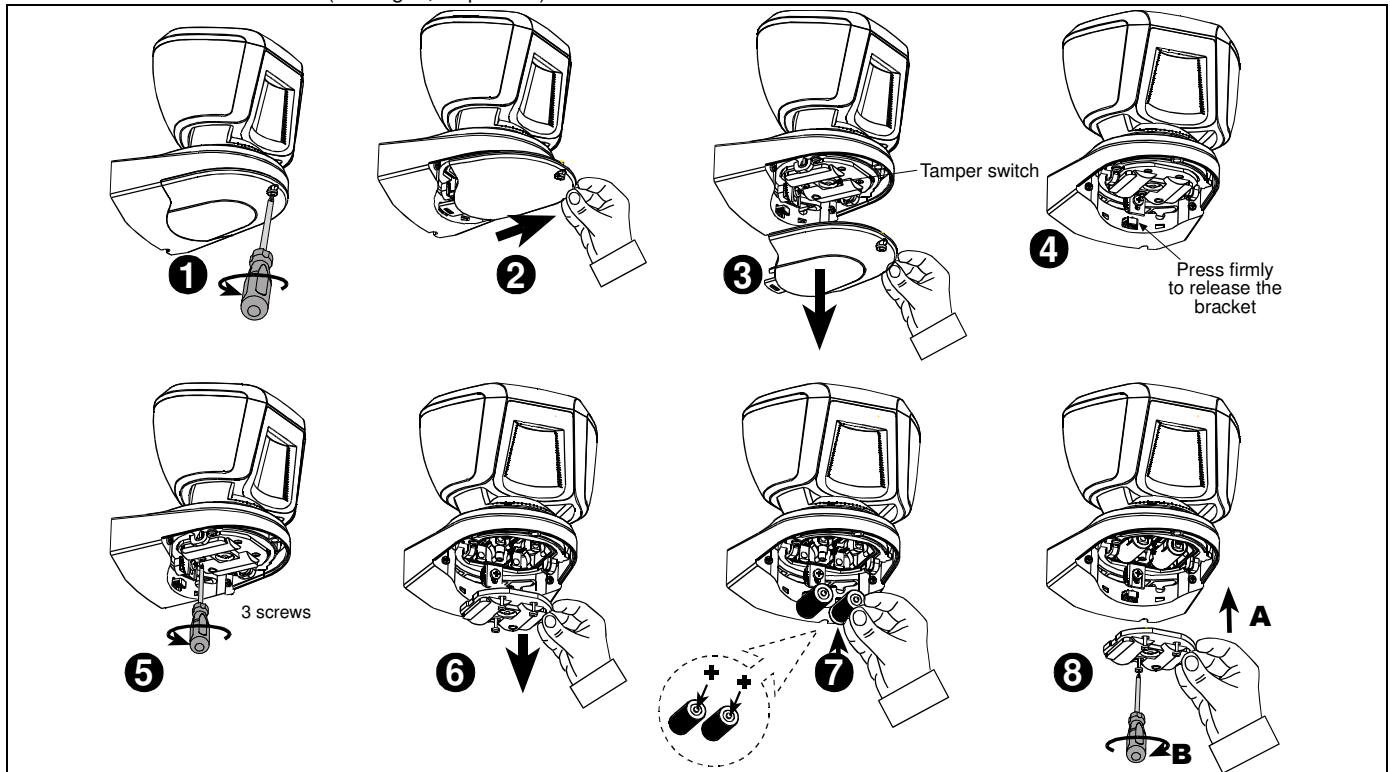

Figure 3 – Battery Insertion
Remove the 2 detector's bottom covers (see Figure 3, steps 1-5) to gain access to the DIP switches. Set the DIP switches according to Table 1:
3.2 Battery Insertion (Figure 3)
tamper switch, i.e. open the detector bottom cover (see Fig. 3, steps 1 - 3) and then close it.
Open the detector bottom cover (see Fig. 3, steps 1 - 3) and then press and release the tamper switch. The LED will flash for 60 seconds and then the detector will enter into 15 minutes walk-test mode.